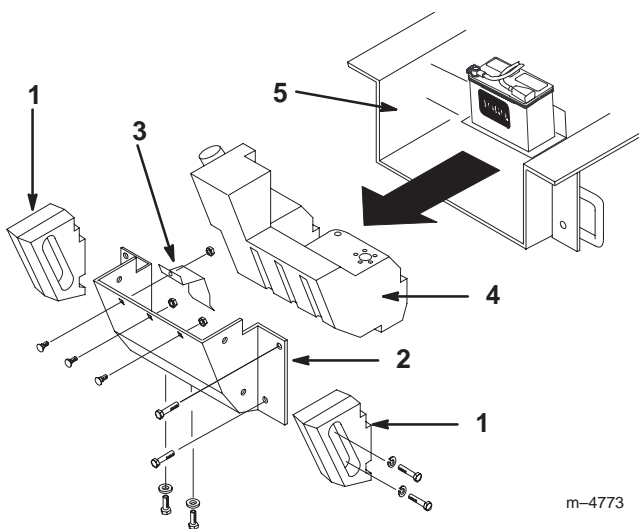

Figure 47
Over time, the chassis under the engine collects dirt and debris that must be removed. Using a flashlight, open the hood and inspect the area under the engine on a regular basis. When the debris is one to two inches deep, complete the following procedure (refer to Figure 47 throughout this procedure):
4. Remove the bolts, washers, and lock washers securing the two side weights, removing the weights (Fig. 47).
6. Remove the three carriage bolts and washers from the battery base and the fuel tank bracket, removing the bracket (Fig. 47).
7. Remove the six nuts and bolts securing the rear panel, removing the panel (Fig. 47).
10. Slide the fuel tank to the rear (Fig. 47).
16. Slide the fuel tank part way into the chassis (Fig. 47).
21. Replace the rear panel and secure it with the six bolts and nuts removed previously (Fig. 47).
22. Place the fuel tank bracket over the tank and secure it and the battery tray with the bolts and washers removed previously (Fig. 47).
23. Install the side weights with the bolts, washers, and lock washers removed previously (Fig. 47).